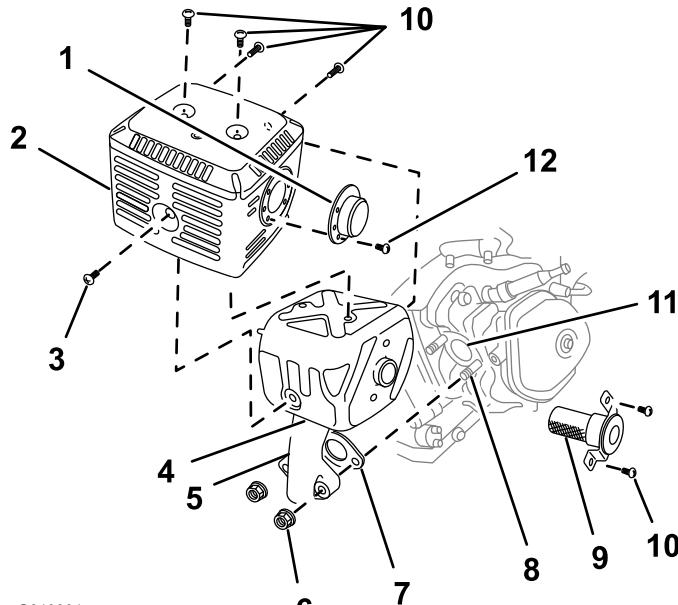

Figure 46
- Remove the two 8 mm nuts and remove the muffler from the engine exhaust port (Figure 46).
- Remove the three 4 mm screws from the exhaust deflector, and remove the deflector from the muffler protector (Figure 46).
- Remove the 6 mm screw and four 5 mm screws from the muffler protector and remove the muffler protector from the muffler (Figure 46).
- Remove the 5 mm screws from the spark arrester, and remove the spark arrester from the muffler (Figure 46).
- (Figure 46).
- C. Align the muffler protector to the muffler and secure it with the 6 mm screw and 5 mm screws removed in step 1-C (Figure 46).
- D. Align the exhaust deflector with the muffler protector and secure it with the 4 mm screws removed in step 1-B (Figure 46).
- F. Align mounting points of the exhaust pipe with the studs of the exhaust port and secure it with the nuts removed in step 1-A (Figure 46).